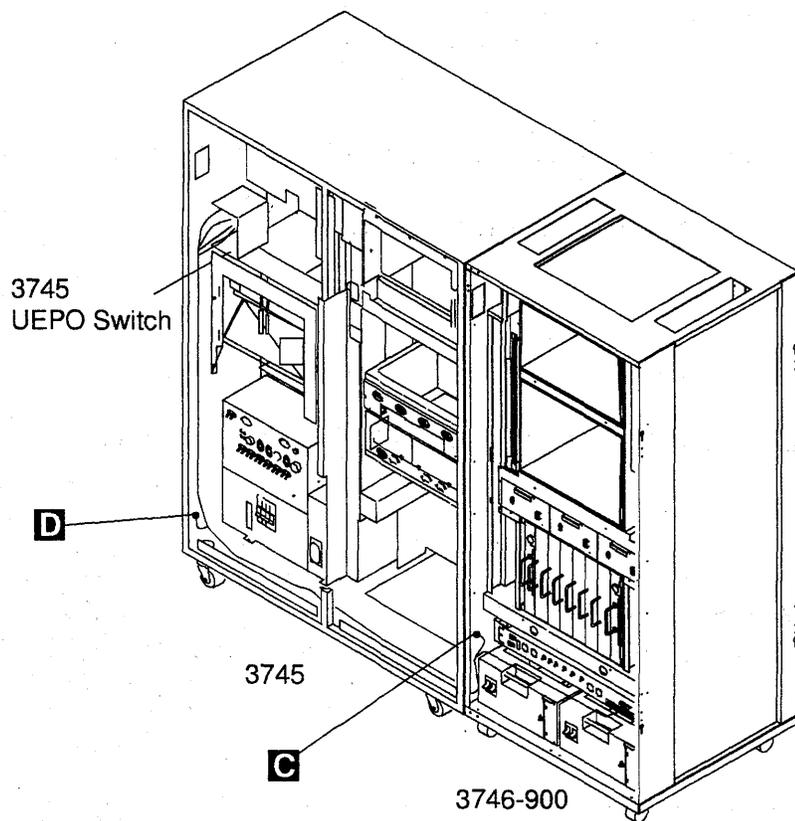

Figure 0-1. 3746-900 UEPO Cable Routing
- The 3746-900 is grounded to the 3745 via the UEPO cable (see Figure 0-1 on page xx).